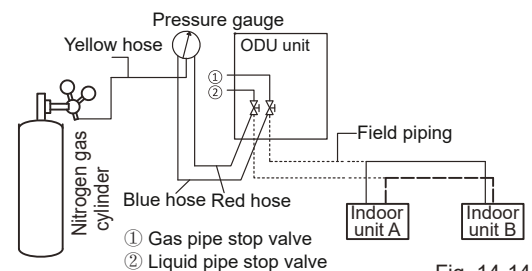

Fig. 14-14
4. Use blind plugs to block all liquid (gas) side openings, except for the opening at the indoor unit which is furthest from the outdoor units ("Indoor unit A" in Fig.14-14).